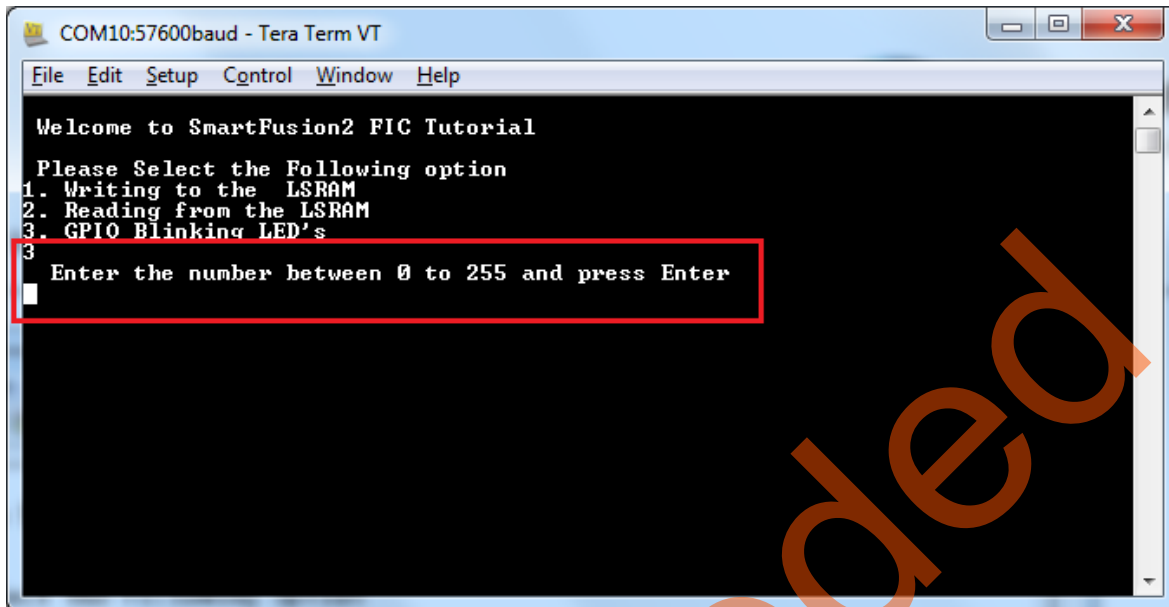

Figure 58 • Selecting GPIO LED Blinking
12. Select **GPIO LED Blinking**, it prompts for **Enter the number between 0 to 255** and press **Enter** as shown in Figure 58 on page 49.